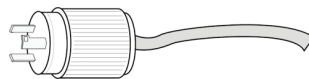

Figure 5
2. An electrical plug to connect the Redi-Flo VFD power cord to your portable generator may be needed if the supplied plug is not compatible with your generator (See Figure 5).